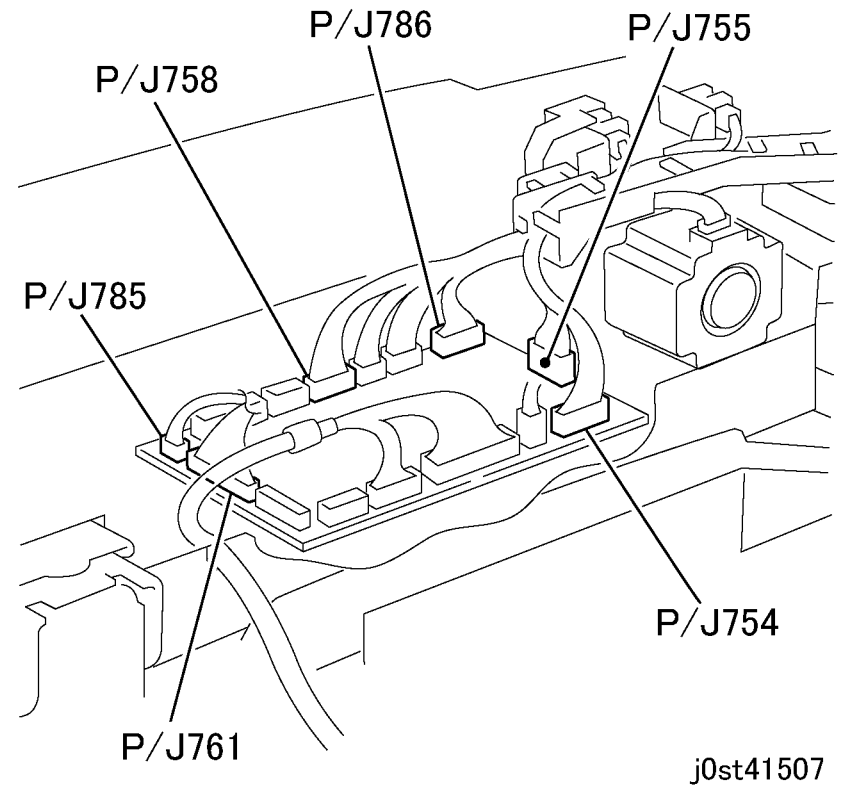

Figure 1 Disconnecting the DADF PWB connectors (j0st41507)
5. Disconnect the DADF PWB connectors. (Figure 1)